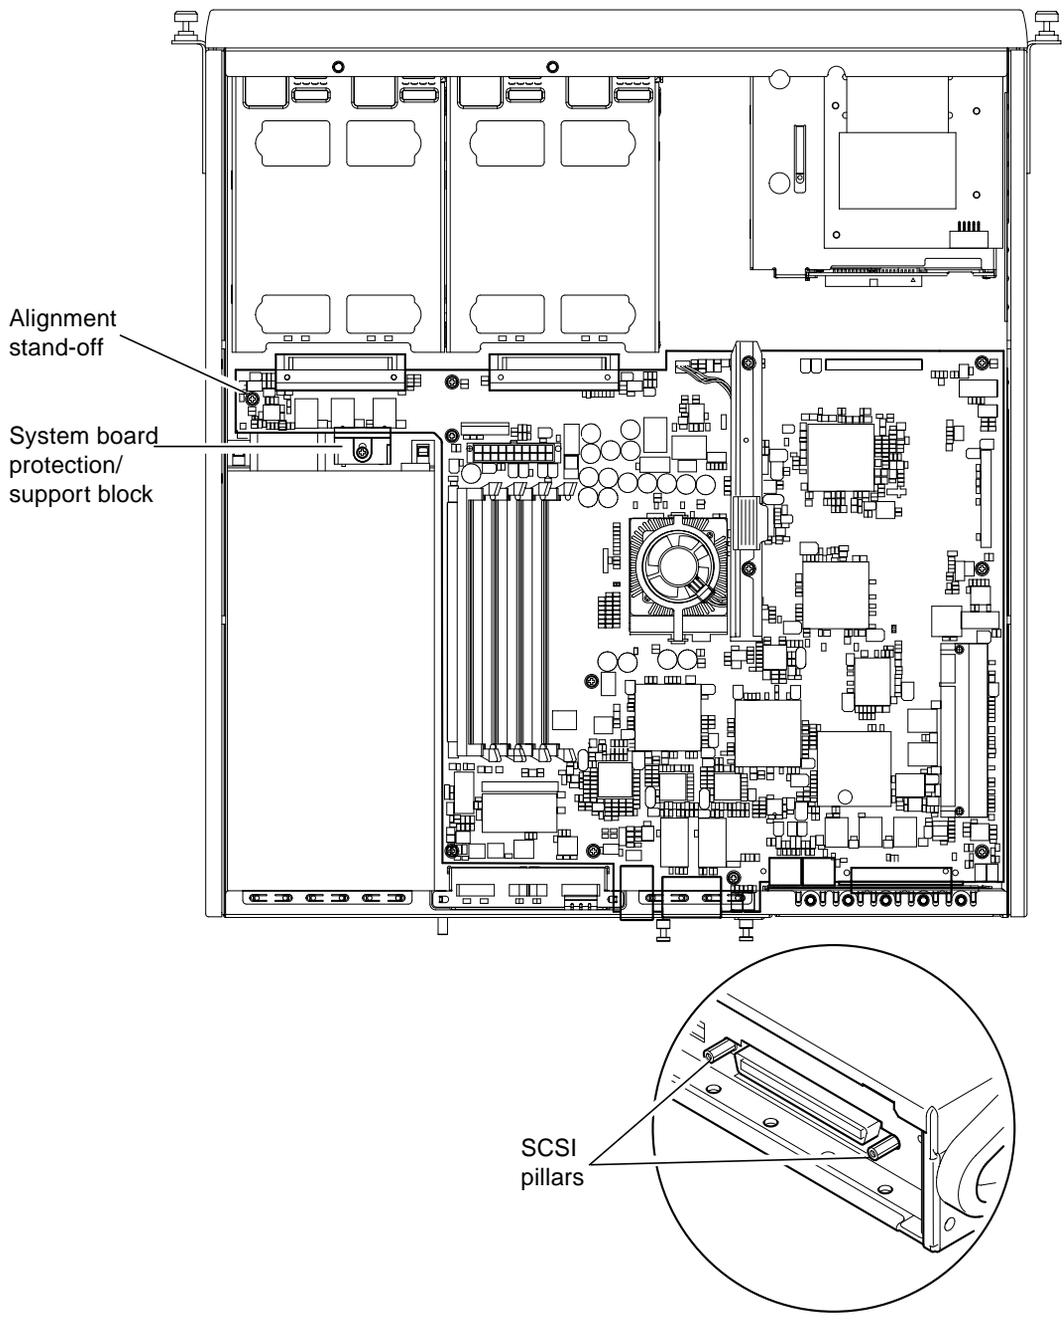

FIGURE 11-6 The System Board
8. Unscrew the system board protection/support block (between the PSU and hard disk drive bay 1) and slide it back as far as the PSU (see FIGURE 11-6).
9. Unscrew and remove the PCI card slide retainer (see FIGURE 11-6).
10. Unscrew all system board fixing screws (see FIGURE 11-6).
11. Unscrew the SCSI pillars on the back panel (see FIGURE 11-6).
2. Now position the system board on the alignment stand-off between the PSU fan and hard disk drive bay 1 (see FIGURE 11-6).
3. Insert the SCSI pillars (see FIGURE 11-6) and replace their screws loosely.
4. Insert all system board fixing screws loosely (see FIGURE 11-6). Do not put any screws in the holes for the PCI card slide retainer.
10. Slide the system board protection/support block forward until it engages with the the system board (see FIGURE 11-6).